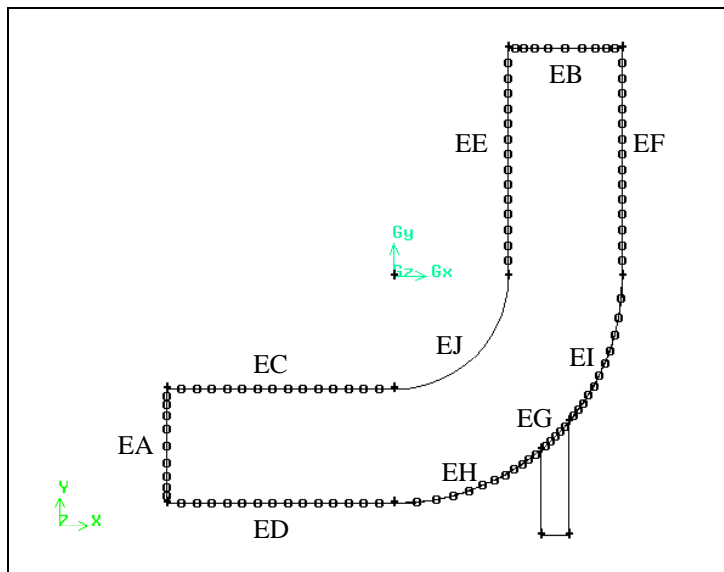

Figure 2-18: Mesh on outer bend of pipe
The mesh on the two edges on the outer radius of the bend is shown in Figure 2-18.
- a) Select the edge marked EJ in Figure 2-18.